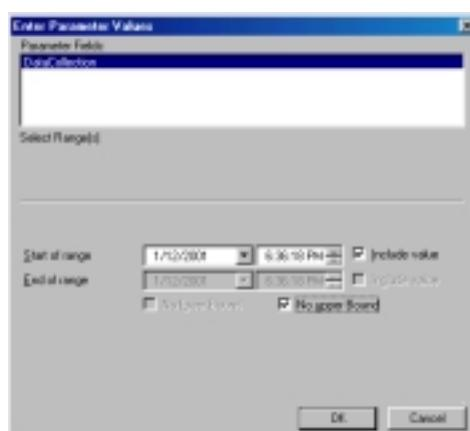

Figure 8.38 Date Range Window
2. A window specifying a date range will appear (Figure 8.38). Enter the beginning and ending collection dates for the desired report. Select the “No upper Bound” option to view a report containing all transactions since the “Start of range” field value or select the “No lower Bound” option to view a report containing all transactions leading up to the “End of range” value.